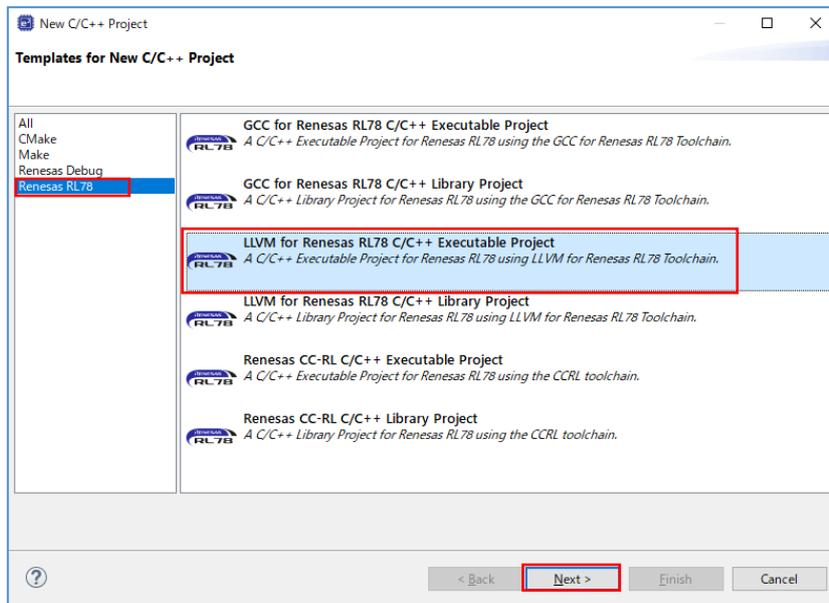

Figure 6-12. Select the LLVM Compiler for the Tool Chain
- When using the LLVM compiler, Select [LLVM for Renesas RL78 C/C++ Executable Project] displayed after selection in [Renesas RL78], and press "Next" button (as shown in Figure 6-12).